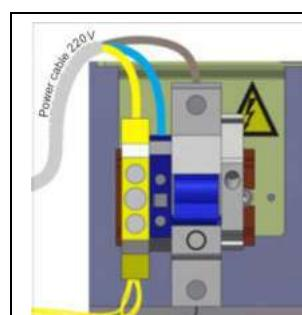
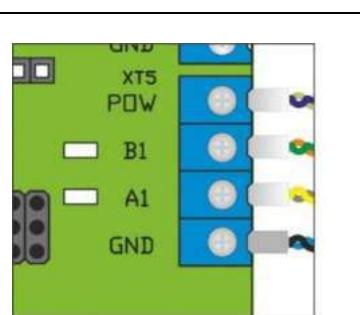

Fig. 17 – Connection of power supply cable
Fig.18 – Connection of control desk link cable to terminals AUIA.206.21.00.00
a) Power supply cable ~230 V to be connected (Fig. 17):
- Phase (L) - to be connected to circuit breaker;
- Neutral (N) to be connected to terminal ~230V;
- Earth (PE) to be connected to earthing terminal (PE).
b) Control desk link cable to be connected to terminals (Fig.18):